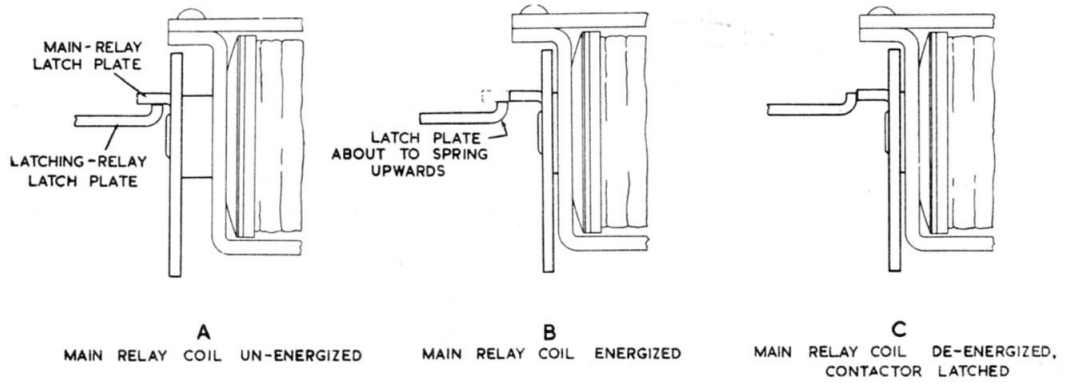

Fig. 3. Details of latching mechanism
4. The operation of the latching mechanism is shown in fig. 3, with A the position of the plates when the main relay coil is un-energized. When the main relay armature